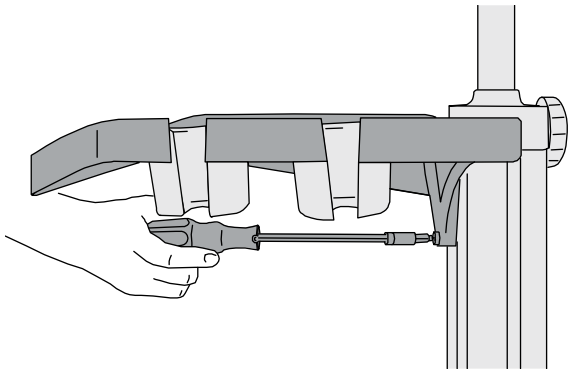

Figure 7 Tighten tray.
- 2 Insert the two 40mm Allen-head screws, and tighten them with the magnetic screwdriver (with the Allen bit). See Figure 7.